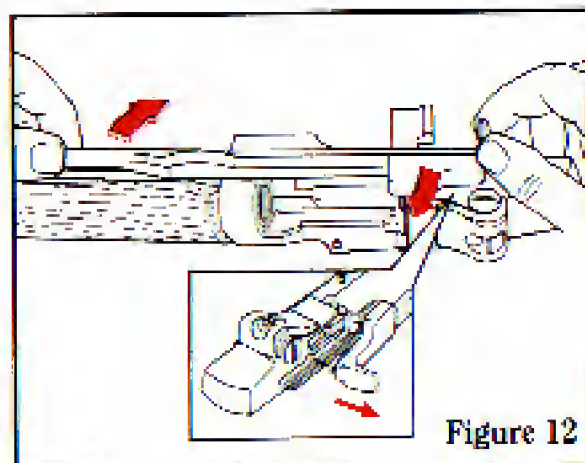

Figure 12
7. Pull slide handle to the rear. Align locking projections on slide with disassembly notch on receiver. Remove slide (See Fig. 12).